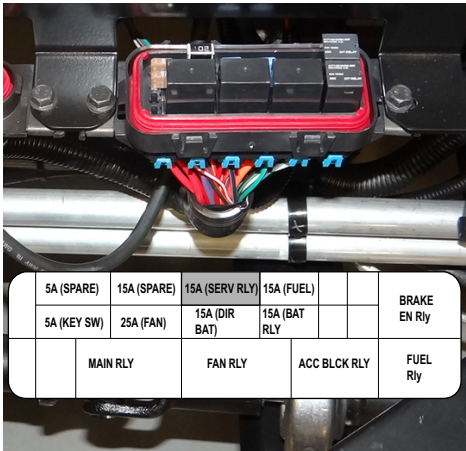

Fig. 5 Service Fuse
- d. Remove the 15Amp service fuse in the main fuse box under the driver seat. Removing this fuse will interrupt the power supply circuit to the ignition coil, injectors and O₂ sensor so that the engine will turn over without starting (Ref. Fig. 5).